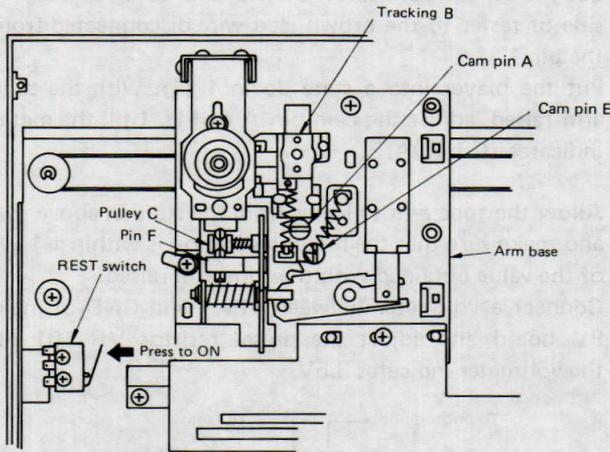

Fig. 1
- 1) Remove the main turntable belt and the horizontal motor belt. With no record, lift the tone arm base with the finger and move it to the centre of turntable. Press the actuator of REST switch to put the switch into the ON state. (See Fig. 1)
- 1) Put the player into a state as in 1 (1). Press the LIFT/CUE button to lower the tone arm. Press again the LIFT/CUE button to raise the arm and make sure that the arm rises without tilting to right or left. If the arm tilts to either right or left, allow the arm to lower and adjust a screw of pulley C (Fig. 1) until the tone arm rises and lowers without tilting.
- 1) Put the player into a state of 1 (1). With the tone arm raised, turn the pin F to adjust the clearance between the pulley C and pin F (shown in Fig. 1) to 0.5 ± 0.3 mm.
- 5) Put the player into a state do in 1 (1). With the tone arm raised, adjust the cam pin A of Fig. 1 till the meter indicates $10 \pm 1 \mu A$.
- 6) Allow the tone arm to lower from the state in above (5), and make sure that the meter indication is within $\pm 1 \mu A$ of the value obtained with the tone arm raised.